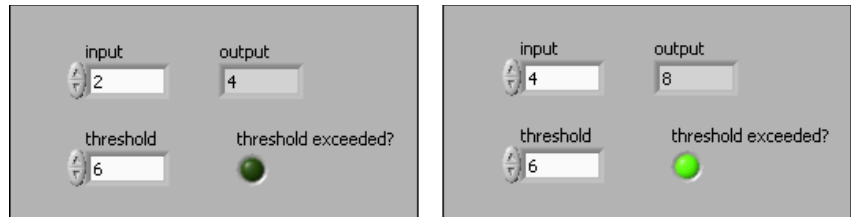

Figure 4. LED Lights when Output Exceeds Threshold
3. Enter different values in the **input** numeric control. In Figure 4, the **output** value on the left does not exceed the **threshold** value. If you change the **input** value so that the **output** value is greater than the **threshold** value, the **threshold exceeded?** LED lights.